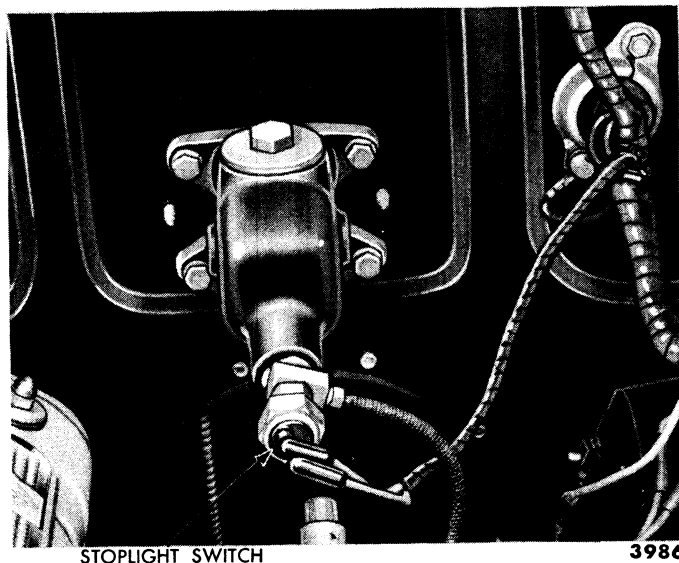

Fig. 14—Stop Light Switch—Conventional Models
(3) **STOP LIGHT SWITCH.** Disconnect the wires at the bullet connectors, and unscrew the switch from the master-cylinder (figs. 14 and 15).